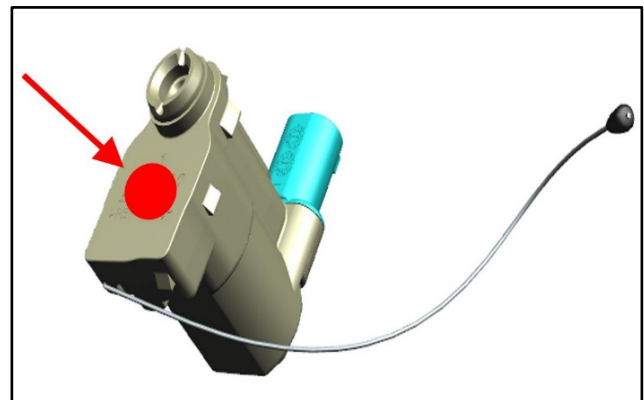

Figure 2
3. Apply Plexus MA300 adhesive in the location shown by the red dot (refer to Figure 2).